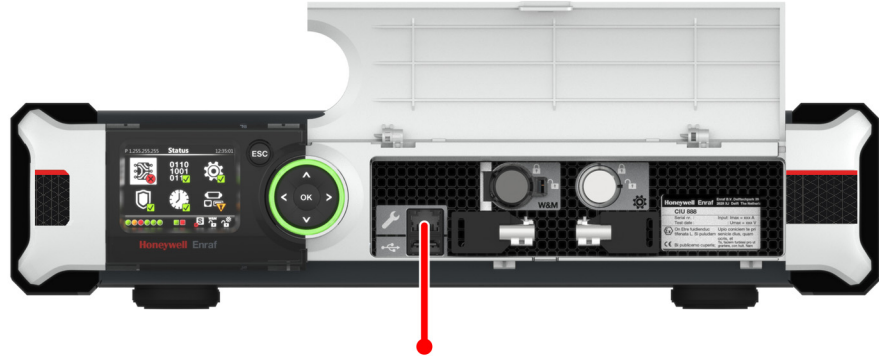

FIGURE 6-1
the CIU 888 (see FIGURE 6-1). See Chapter 3 for more information about the CIU 888 Configuration System.
- A PC/laptop running the CIU 888 Configuration System must be connected to the Service port of the CIU 888 using a Cat. 5 Ethernet cable (patch or crossover). The Service port is located at the front of the CIU 888 (see FIGURE 6-1). See Chapter 3 for more information about the CIU 888 Configuration System.